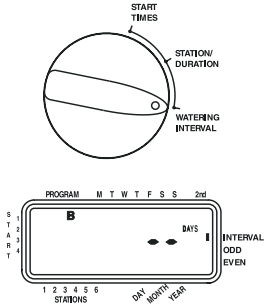

Figure 8: LCD Display with Watering Interval
- Turn the rotary dial to Watering Interval. The cursor will blink to the left of the word Interval [See Figure 8].